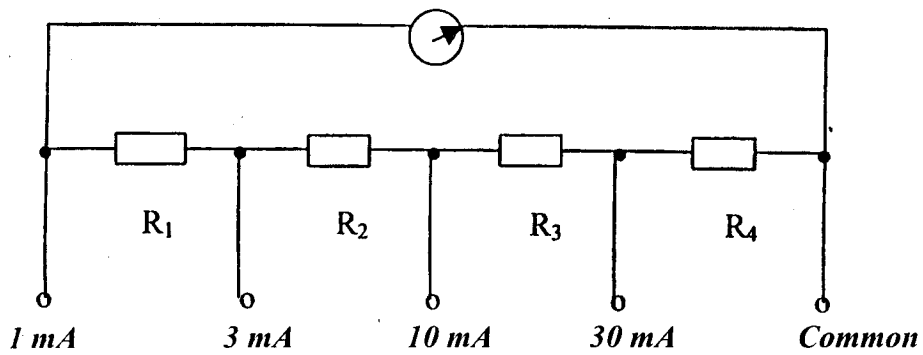

Fig. Q6.
6. a) Fig Q6 shows an Ammeter circuit using a D" Arsonal meter movement with an fsd of  $100\mu A$  and  $R_m$  of  $2700 \Omega$ . Calculate values  $R_1$  to  $R_4$  **(6 Marks)**